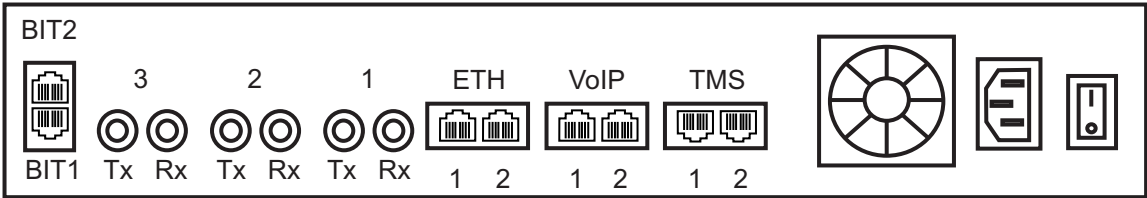

Figure 2.10 DS3 Interface to the PSTN
A TMP6400 with 3 sets of BNC connectors enables the connection to DS3 lines. See figure 2.10 on page 21
- 1. Start with the Dual BNC port pair #1 (right-most) as shown in figure 2.10 on page 21. Connect one pair of BNC cables between this port and the DS3 line.